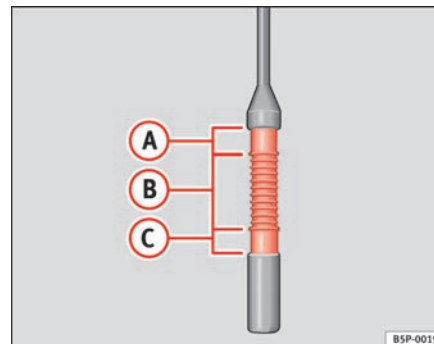

Fig. 157 Engine oil dipstick.
- Then pull it out once more and check the oil level ⇒ fig. 157. Top up with engine oil if necessary.